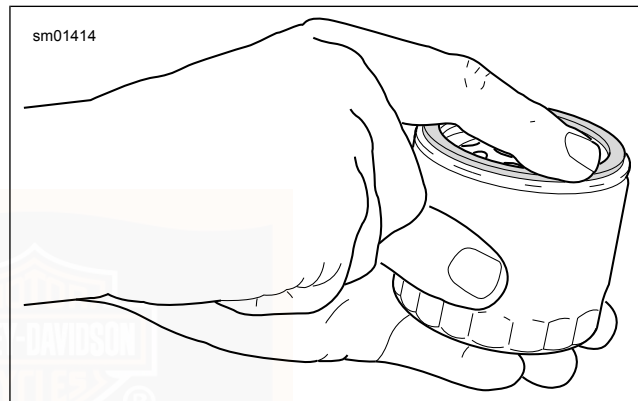

Figure 55. Lubricating New Oil Filter Gasket
7. See Figure 55. Install **new** oil filter.